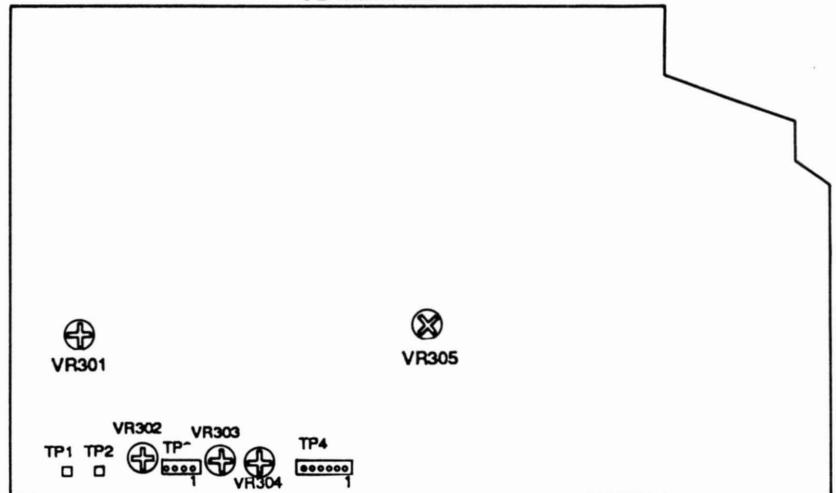

Figure 16
<p>NOTE: For instructions on accessing the Tuner PCB, refer to Disassembly Procedure # 33, Tuner PCB Removal.</p> <p>AM Alignment Procedures</p> <p>1. AM RF Alignment</p> <p>A. Connect an AM signal generator to a standard radiating loop.</p> <p>B. Set the signal generator frequency to 530 kHz.</p> <p>C. Adjust the frequency setting on the unit to 530 kHz.</p> <p>D. Connect a DC meter across CN001 (Tuner PCB, Figure 16), pin 1 and pin 2.</p> <p>E. Adjust L006 (Tuner PCB, Figure 16) until the meter indicates 1V ± 0.05V.</p> <p>F. Set the signal generator frequency to 1620 kHz.</p> <p>G. Adjust the frequency setting on the unit to 1620 kHz.</p> <p>H. Adjust L006 until the meter indicates 7V ± 0.05V.</p> <p>I. Repeat these adjustments until the closest possible number to the desired setting is achieved.</p> <p>2. AM Sensitivity Alignment</p> <p>A. Connect an AM signal generator to a standard radiating loop. (Signal generator input settings: Modulation: 400 Hz, 30%, with a field strength of 850 μV/m at the unit's antenna).</p>	<p>B. Set the signal generator frequency to 600 kHz.</p> <p>C. Adjust the frequency setting on the unit to 600 kHz.</p> <p>D. Connect a voltmeter across the line level outputs on the back of the unit.</p> <p>E. Adjust Bar Antenna L005 (Bar Antenna PCB, Figure 16) for maximum output.</p> <p>NOTE: The bar antenna's coil is glued with paraffin. It needs no readjustment unless replaced with a new one.</p> <p>F. Set the signal generator frequency to 1400 kHz.</p> <p>G. Adjust the frequency setting on the unit to 1400 kHz.</p> <p>H. Adjust CT003 (Bar Antenna PCB, Figure 16) for maximum output.</p> <p>I. Repeat these adjustments until the optimal result is achieved.</p> <p>3. AM Auto Tuning Adjustment</p> <p>A. Connect an AM signal generator to a standard radiating loop. (Signal generator input settings: Modulation: 400 Hz, 30%, with a field strength of 850 μV/m at the unit's antenna).</p> <p>B. Set the signal generator frequency to 1000 kHz.</p> <p>C. Adjust the frequency setting on the unit to 1000 kHz.</p> <p>D. Connect a DC meter across TP1 (PLL PCB, Figure 16) and ground.</p>
<p>E. Adjust SFR001 (Tuner PCB, Figure 16) so that the meter indicates a range of approximately 5V and 0V by following these steps:</p> <ol style="list-style-type: none"> 1. Adjust SFR001 so that the meter reads 0V. 2. Turn SFR001 to the right until approximately 5V is indicated on the meter. 3. Turn SFR001 to the left until a big drop (edge) in voltage (towards 0V) is indicated. The meter may not indicate exactly 0 volts. When this “edge” is reached, the adjustment is complete. 4. To check adjustments, press the “Tune/Seek” button until it beeps. Release the button. The unit will scan in Auto-Tune and should stop at 1000 kHz if properly adjusted. <p>FM Alignment Procedures</p> <p>1. FM RF Alignment</p> <p>A. Connect an FM signal generator to the external antenna terminals on the unit.</p> <p>B. Set the signal generator frequency to 88.1 MHz.</p> <p>C. Adjust the frequency setting on the unit to 88.1 MHz.</p> <p>D. Connect a DC meter across CN001 (Tuner PCB, Figure 16) pin 1 and pin 2.</p> <p>E. Adjust L003 (Tuner PCB, Figure 16) until the meter indicates 1.0V ± 0.05V.</p> <p>F. Set the signal generator frequency to 107.9 MHz.</p> <p>G. Adjust L003 until the meter indicates 7.0 ± 0.05V.</p> <p>H. Repeat these adjustments until the closest possible number to the desired setting is achieved.</p>	<p>2. FM 0V Adjustment</p> <p>A. Connect an FM signal generator to the external antenna terminals on the unit. (Signal generator input settings: 98.1 MHz, 60dBμ, Modulation: 1 kHz, 100% {75 kHz dev.}).</p> <p>B. Set the signal generator frequency to 98.1 MHz.</p> <p>C. Adjust the frequency setting on the unit to 98.1 MHz.</p> <p>D. Connect a DC meter across CN002 (Tuner PCB, Figure 16), pin 2 and pin 4.</p> <p>E. Adjust L007 (Tuner PCB, Figure 16) until the meter indicates 0V.</p> <p>3. FM Sensitivity Alignment</p> <p>A. Connect an FM signal generator to the external antenna terminals on the unit. (Signal generator input settings: 88.1 MHz, 20 dBμ, Modulation: 1 kHz, 100%).</p> <p>B. Set the signal generator frequency to 88.1 MHz.</p> <p>C. Adjust the frequency setting on the unit to 88.1 MHz.</p> <p>D. Connect a voltmeter across the line level outputs of the unit.</p> <p>E. Adjust L001 and L002 (Tuner PCB, Figure 16) until the maximum amplitude is achieved.</p> <p>F. Set the signal generator frequency to 107.9 MHz.</p> <p>G. Adjust the frequency setting on the unit to 107.9 MHz.</p> <p>H. Adjust CT001 and CT002 (Tuner PCB, Figure 16) until a maximum amplitude is achieved.</p> <p>I. Repeat these adjustments until an optimal result is achieved.</p>
<p>4. FM T.H.D. Adjustment</p> <p>A. Connect an FM signal generator to the external antenna terminals on the unit.</p> <p>B. Set the signal generator frequency to 98.1 MHz.</p> <p>C. Adjust the frequency setting on the unit to 98.1 MHz.</p> <p>D. Connect a DC meter across CN002 (Tuner PCB, Figure 16) pin 2 and pin 4.</p> <p>E. Connect a distortion meter across the line level outputs of the unit.</p> <p>F. Adjust L004, L007 and L008 (Tuner PCB, Figure 16) until the meter indicates 0 ± 20mV and as low a T.H.D. as possible.</p> <p>G. Repeat these adjustments for minimum T.H.D. with a meter reading of 0V.</p> <p>5. FM Auto Tuning Adjustment</p> <p>A. Connect an FM signal generator to the external antenna terminals on the unit (Signal generator Input settings: 98.1 MHz, 26 dBμ, Modulation : 1 kHz, 100 %).</p> <p>B. Set the signal generator frequency to 98.1 MHz.</p> <p>C. Adjust the frequency setting on the unit to 98.1 MHz.</p> <p>D. Connect a DC meter across TP1 (PLL PCB, Figure 16) and ground.</p> <p>E. Adjust SFR003 (Tuner PCB, Figure 16) so that the meter indicates a range of approximately 5V and 0V by following these steps:</p> <ol style="list-style-type: none"> 1. Adjust SFR003 so that the meter indicates 0V. 2. Turn SFR003 to the right until approximately 5V is indicated on the meter. 	<p>3. Turn SFR003 to the left until a big drop (edge) in voltage (towards 0V) is indicated. The meter may not indicate exactly 0V. When this “edge” is reached, this adjustment is complete.</p> <p>4. To check adjustments, press the “Tune/Seek” button until it beeps. Release the button. The unit will scan in Auto-Tune and should stop at 98.1 MHz if properly adjusted.</p> <p>6. 19 kHz Adjustment</p> <p>A. Connect an FM signal generator to the external antenna terminals (Signal generator Input settings: 98.1 MHz, 26 dBμ, Modulation: 1 kHz, 100 %).</p> <p>B. Set the signal generator frequency to 98.1 MHz.</p> <p>C. Adjust the frequency setting on the unit to 98.1 MHz.</p> <p>D. Connect a frequency counter from TP5 (Tuner PCB, Figure 16) to ground.</p> <p>E. Adjust SFR003 (Tuner PCB, Figure 16) until the frequency counter indicates 19 kHz.</p> <p>7. FM Separation Adjustment</p> <p>A. Connect an FM signal generator to the external antenna terminals on the unit.</p> <p>B. Set the signal generator frequency to 98.1 MHz.</p> <p>C. Adjust the frequency setting on the unit to 98.1 MHz.</p> <p>D. Connect a voltmeter across the unit's line level outputs.</p> <p>E. Adjust SFR004 (Tuner PCB, Figure 16) until the optimum R/L channel separation is attained.</p>
- Connect a jumper from **TP4, pin 1** to **TP4, pin 5**. Refer to Figures 16 and 17.